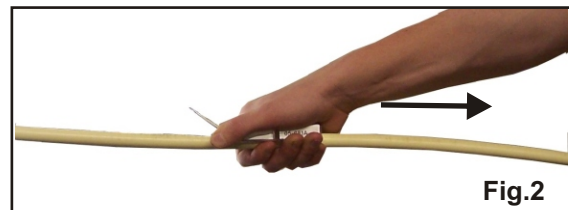

Fig.2
2. Draw the tool in the direction of the desired window holding pressure against the cable. (Fig.2)